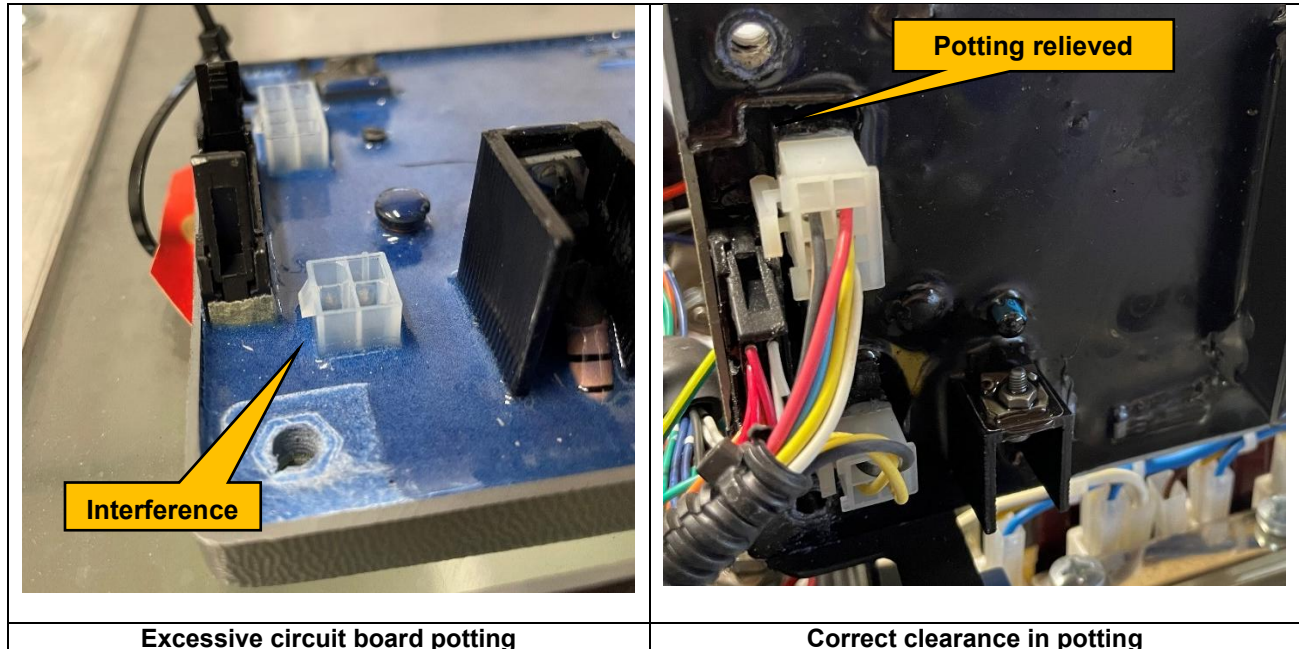

Figure 8
- ☐ If the connectors are not fully engaging with the dc pc board, inspect the circuit board potting surrounding the connector (Figure 8).